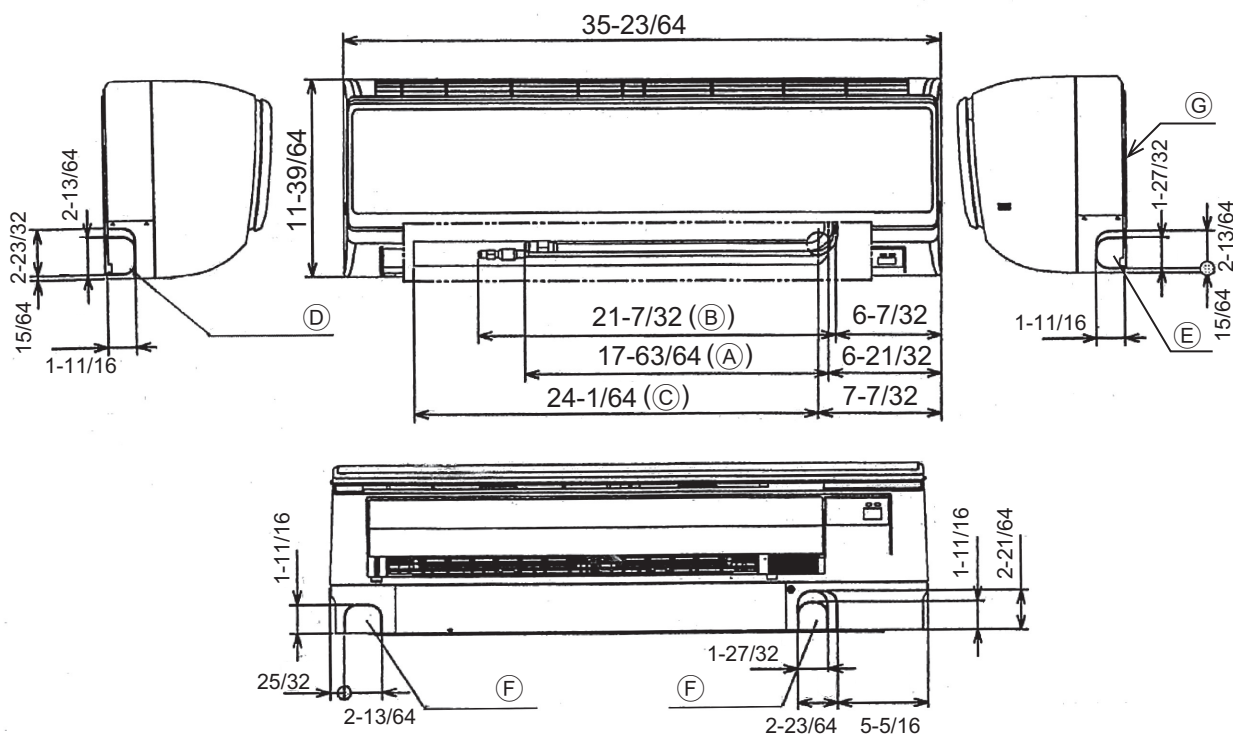

Fig. 4-2
4.3. Positioning refrigerant and drain piping (Fig. 4-2)
- (A) Gas pipe
- (B) Liquid pipe
- (C) Drain hose
- (D) Left-side piping knockout hole
- (E) Right-side piping knockout hole
- (F) Mount board